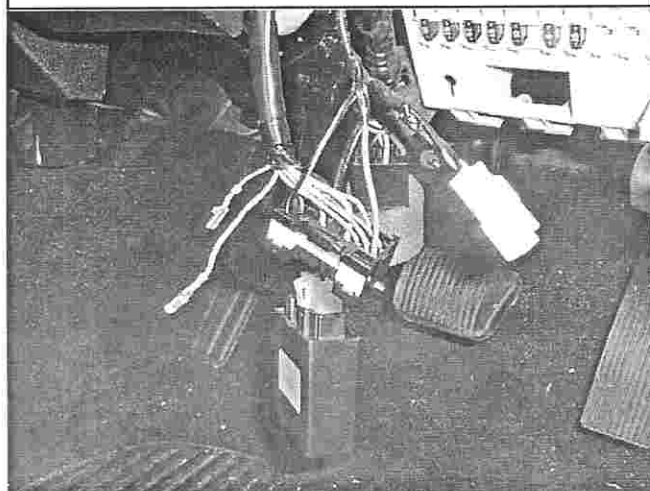

Fig 11. Orange and the Black/Yellow wire removed from the steering column connector.
17. Release the white anti-back out plate from the 26 pin steering column connector. Back out the Orange wire and the Black/Yellow wire. Refer Drawing 2 & Fig 11.
18. Install the Orange wire and the Black/Yellow wire on the supplied wiring loom into the location in the Black connector housing where the wires were removed in step 17. Refer Figs 11&12.